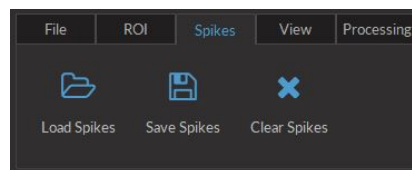

Figure 4.14: Spikes Tab
3. The **Spikes tab** (Fig. 4.14) is used to save/load data relating to regions of interest drawn on an image.